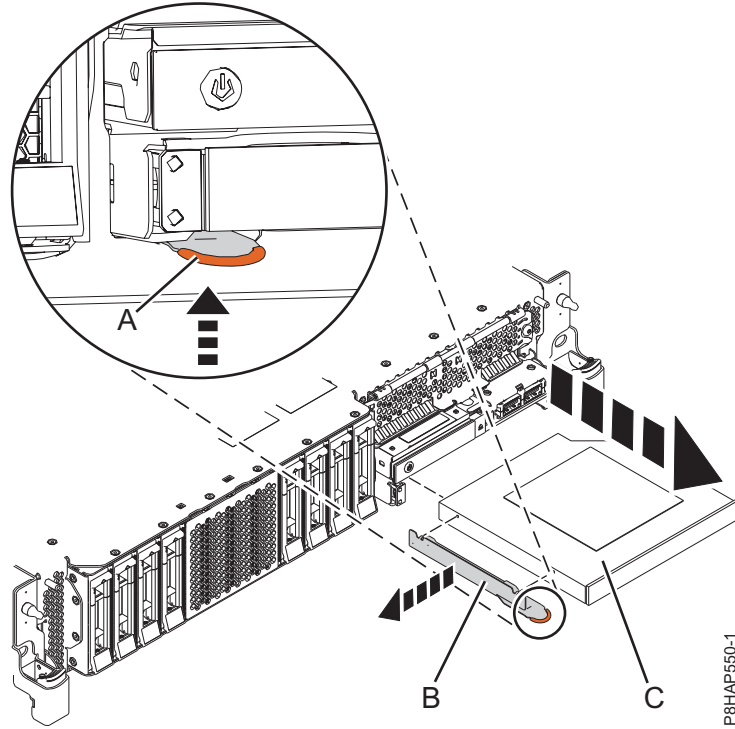
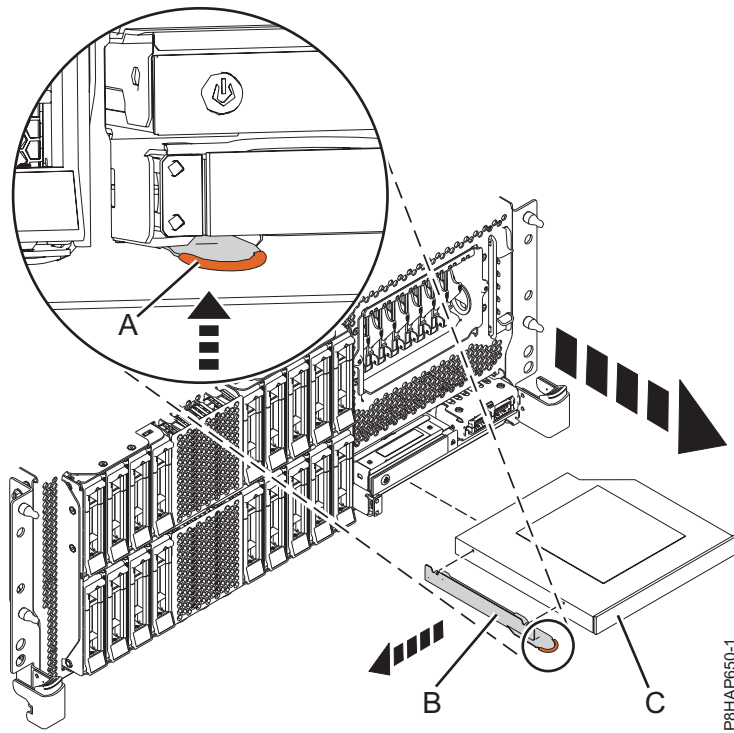
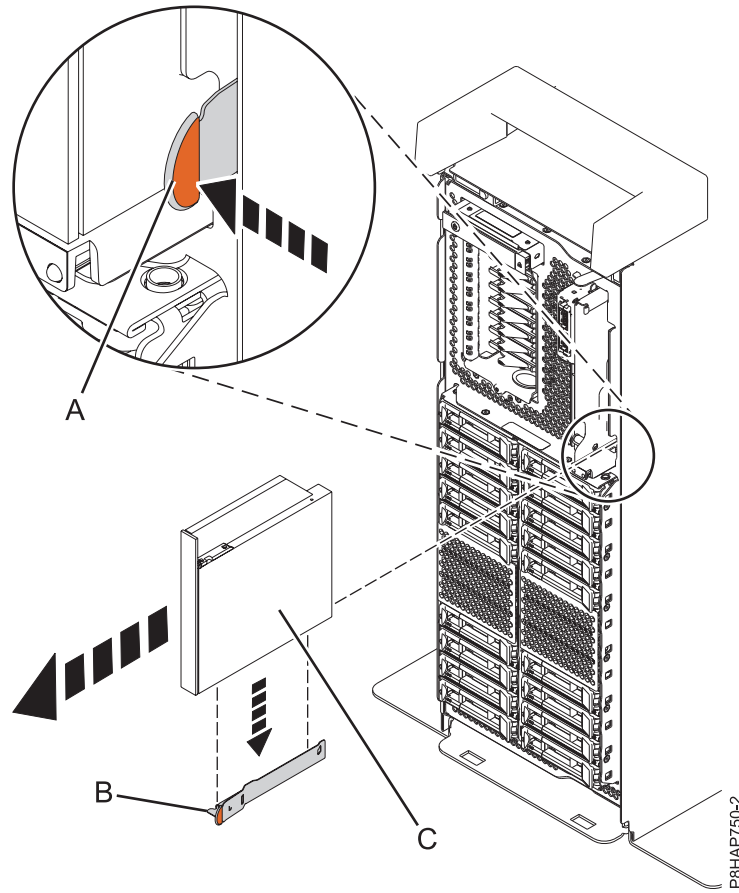

Figure 39. Removing a Slimline media device from an 8284-21A or 8284-22A system
Figure 40. Removing a Slimline media device from a rack-mounted 8286-41A or 8286-42A system
Figure 41. Removing a Slimline media device from a stand-alone system
For an 8284-21A or 8284-22A system, see Figure 39 on page 45, for a rack-mounted 8286-41A or 8286-42A system, see Figure 40 on page 45, or for a stand-alone 8286-41A system, see Figure 41 on page 46.
6. Pull the Slimline media device (C) away from the system, in the direction shown in Figure 39 on page 45, Figure 40 on page 45, or Figure 41.
7. If you are removing the Slimline media device as part of another service procedure, do not remove the retaining-bracket (B) from the Slimline media device.
8. If you are removing the failed Slimline media device and replacing with a new Slimline media device, you must remove the retaining-bracket (B) for use with the new media device. Remove the retaining-bracket by holding onto the terracotta touch point and pulling it out of the media device as shown in Figure 39 on page 45, Figure 40 on page 45, or Figure 41.
9. Store the retaining-bracket (B) in a safe place.